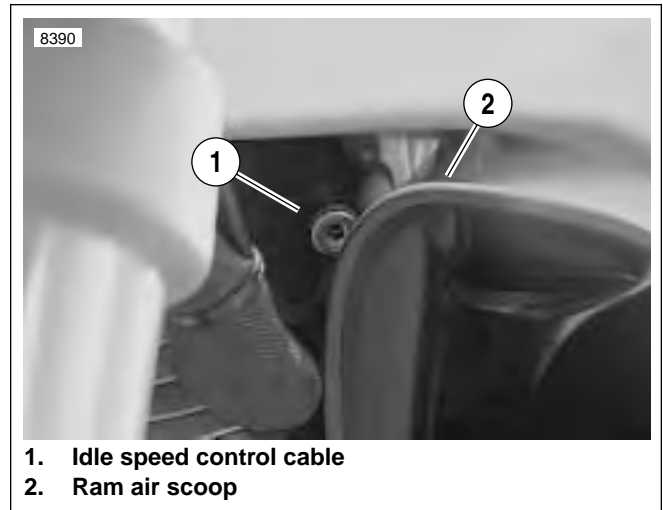

Figure 4-29. Idle Adjustment Cable
See Figure 4-29. The idle speed control cable (1) is located on the left side of the vehicle between the front cylinder head and the ram air scoop assembly (2). Idle speeds are listed in Table 4-15. A 3/16 in. allen wrench may be used to turn adjuster knob.